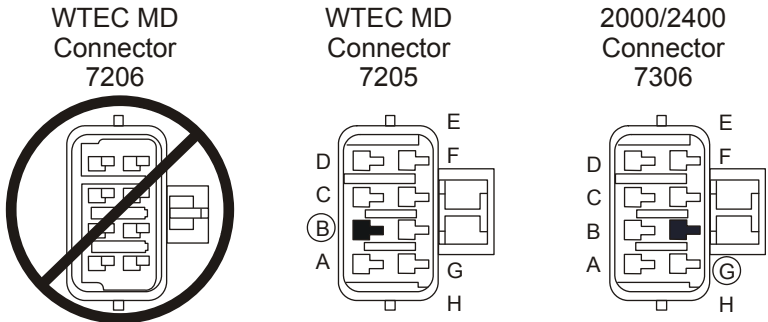

Figure 4.9
- Identify the connector in Figure 4.9 that matches the transmission type. Note that there are two connectors on vehicles with WTEC transmissions; use the 7205 connector.
- For WTEC MD transmissions, locate pin “B” on connector 7205 (Figure 4.9). It will be a light blue with yellow stripe wire. Do not use connector 7206. Probe the wire and confirm 0 Volts in Neutral and 12 Volts in all other gears. Solder the blue wire to this wire and protect the connection with electrical tape.
- For 2000/2400 transmissions, locate pin “G” in connector 7306 (Figure 4.9). It will be a yellow with black stripe wire. With the engine running, brake pedal pressed, and wheels blocked, probe the wire and confirm 0 Volts in Neutral and 12 Volts in all other gears. Mark this wire for identification. With the batteries disconnected, solder and seal the blue wire to this wire.